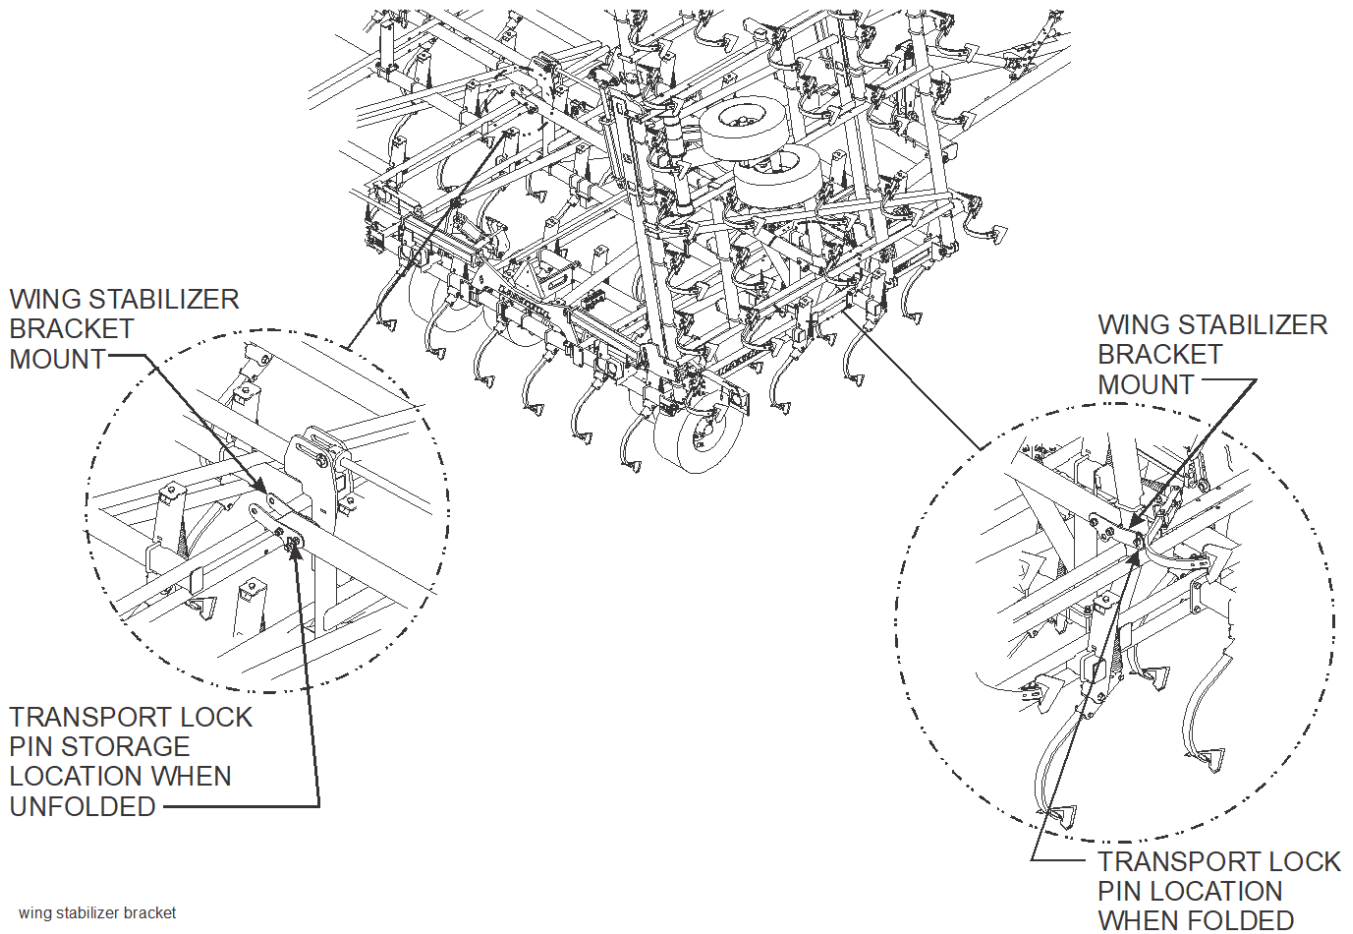

Figure 4-3: Wing Stabilizer Bracket Locks
- To fold/unfold the Field Cultivator, find a level area large enough to accommodate the machine when it is fully unfolded. The tractor should be stopped and not moving with the implement fully raised. Remove the wing transport lock pins from the mounts and install them in the storage locations *See Figure 4-3*.
- Slowly engage the tractor lever and fold/unfold the wing frames. When the wings are unfolded, continue holding the tractor lever to fully extend all fold cylinders. This will allow the wings to fully flex in the field. When the unit is fully folded, remove the wing transport lock pins from the storage location and install in the mounts provided on each side of the machine *See Figure 4-3*.
- Storage - For extended periods of non use, it is best to store the Field Cultivator inside if possible. If the unit must be stored outside for extended periods, is best to apply a light coating of oil or grease to exposed cylinder rods to prevent them from rusting. If the unit is stored in the folded position, make sure the wing transport lock pins are installed to prevent wing frames settling *See Figure 4-3*.